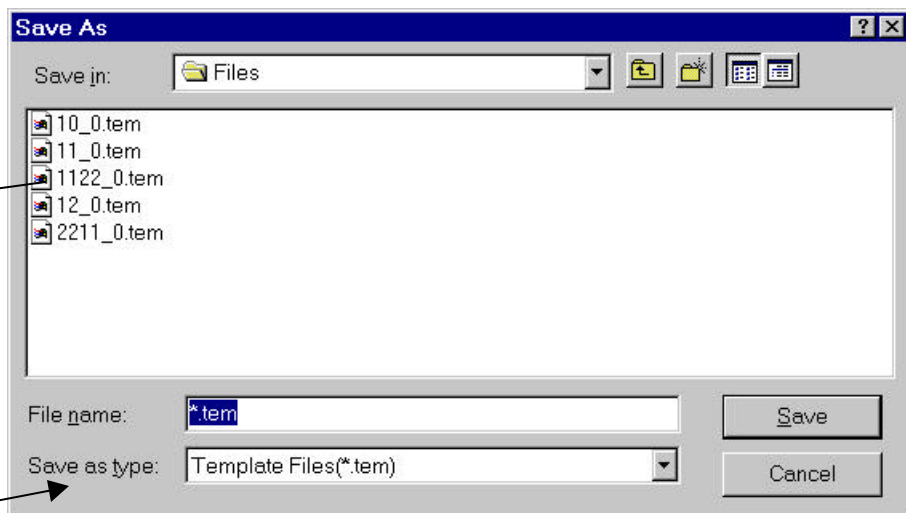

Figure 16: Download Template(s) to PC
- 3 When the screen in Figure 16 appears, confirm the download path and directory; make any applicable changes.